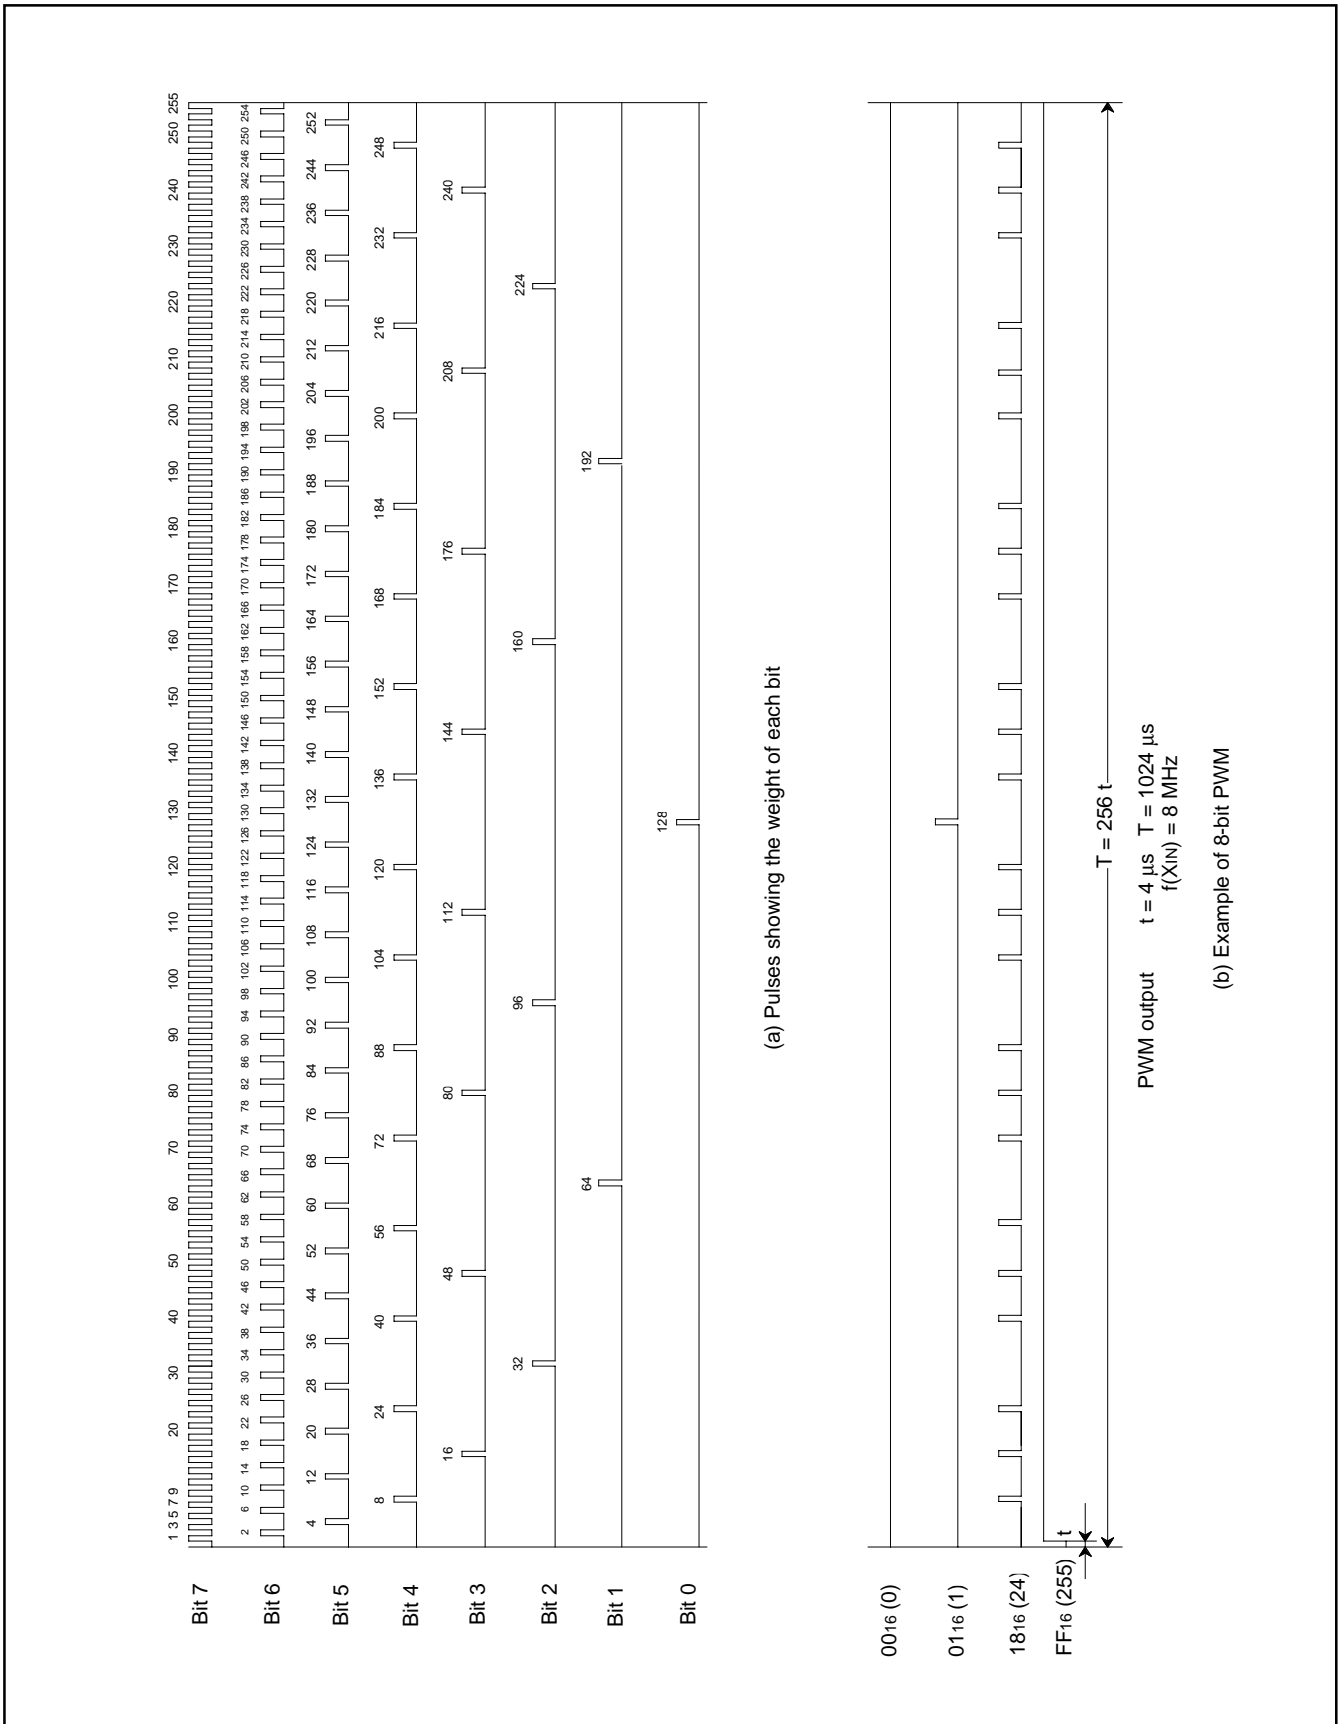

Fig. 8.7.2 PWM Timing
Figure 8.7.2 shows the PWM timing. One cycle (T) is composed of 256 (2^8) segments. The 8 kinds of pulses, relative to the weight of each bit (bits 0 to 7), are output inside the circuit during 1 cycle. Refer to Figure 8.7.2 (a). The PWM outputs waveform which is the logical sum (OR) of pulses corresponding to the contents of bits 0 to 7 of the PWM register. Several examples are shown in Figure 8.7.2 (b). 256 kinds of output (HIGH area: 0/256 to 255/256) are selected by changing the contents of the PWM register. A length of entirely HIGH cannot be output, i.e. 256/256.